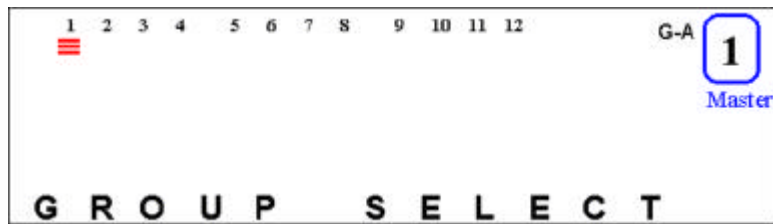

Figure 4.4 Group Select
- 2) Press <Enter>. Several bars under the Port number indicate the current group, as shown in Figure 4.4.